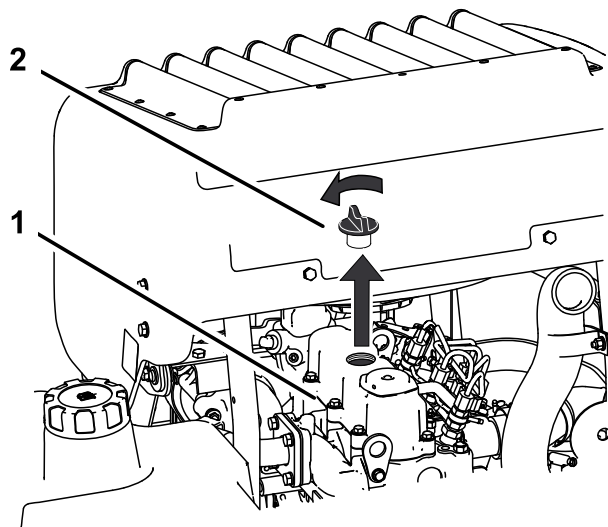

Figure 49
6. Remove the oil filler cap from the top of the engine (Figure 49). This will help the oil to drain.
- Remove the oil filler cap and the dipstick (Figure 49).